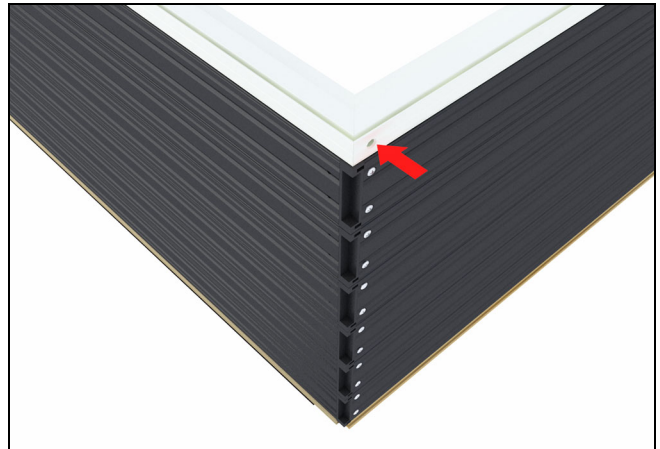

Figure 4
4. Do not install the screw into the frame cladding miter at this time. See Figure 4